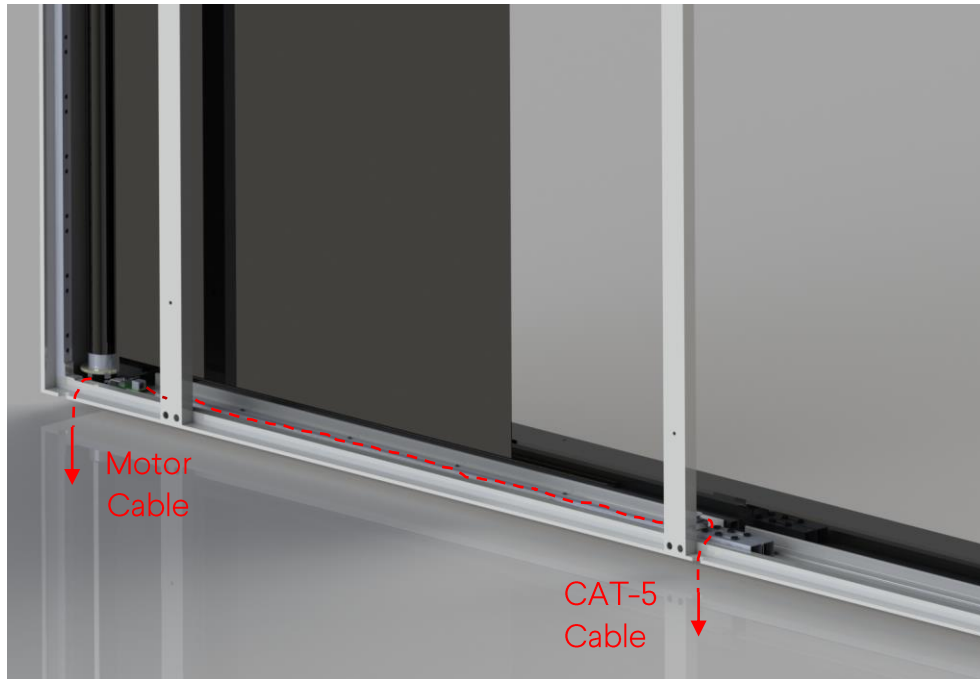

Figure 8: Audience Right Cable Placement Detail Rear View
5. Run the CAT-5 cable and motor cable through the frame's bottom as shown in Figures 8 - 10.
See Figures 8 and 9 for more details.